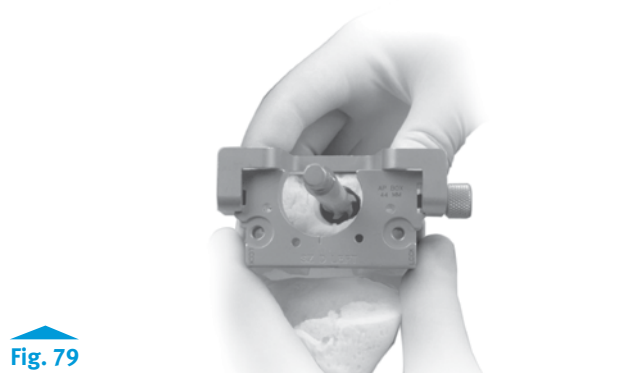

Fig. 79
- Insert the Femoral Stem Base/Cutting Block over the reamer or Stem Provisional Adapter so the cutting block is flush against the distal femur (Fig. 79). Be sure that the proper “Right” or “Left” indication is facing toward you on the cutting block.